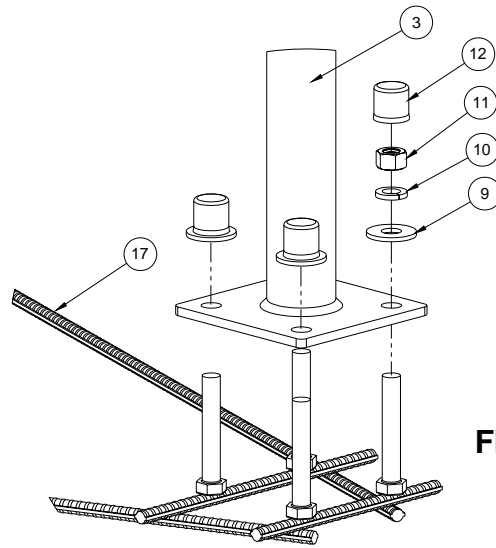

FIGURE 4
3. After **Anchor (item 17)** has been set in concrete, place **Lifeguard Column (item 3)** over anchor studs. Place $\frac{1}{2}$ " **Flat Washers (item 9)**, **Lock Washers (item 10)** and $\frac{1}{2}$ " **Hex Nuts (item 11)** over anchor studs and tighten. Place $\frac{1}{2}$ " **Nut Caps (item 12)** over hex nuts. See **FIGURE 4**.